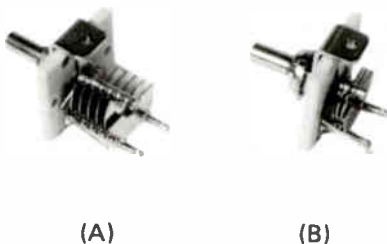

Figure 9. (A) This capacitor has the same maximum capacitance as the one shown at (B).
The capacitance of a variable capacitor also depends on the spacing between the plates. Look at the two capacitors shown in Fig.9. The capacitor in Fig.9(A) is much larger than the one at Fig.9(B), but they have the same maximum capacitance because the spacing between the plates in the capacitor shown in Fig.9(A) is double the spacing between the plates in the capacitor shown at Fig.9(B). The capacitor shown at Fig.9(A) is built for use in circuits in which voltages are higher than those in circuits that use the capacitor shown in Fig.9(B).